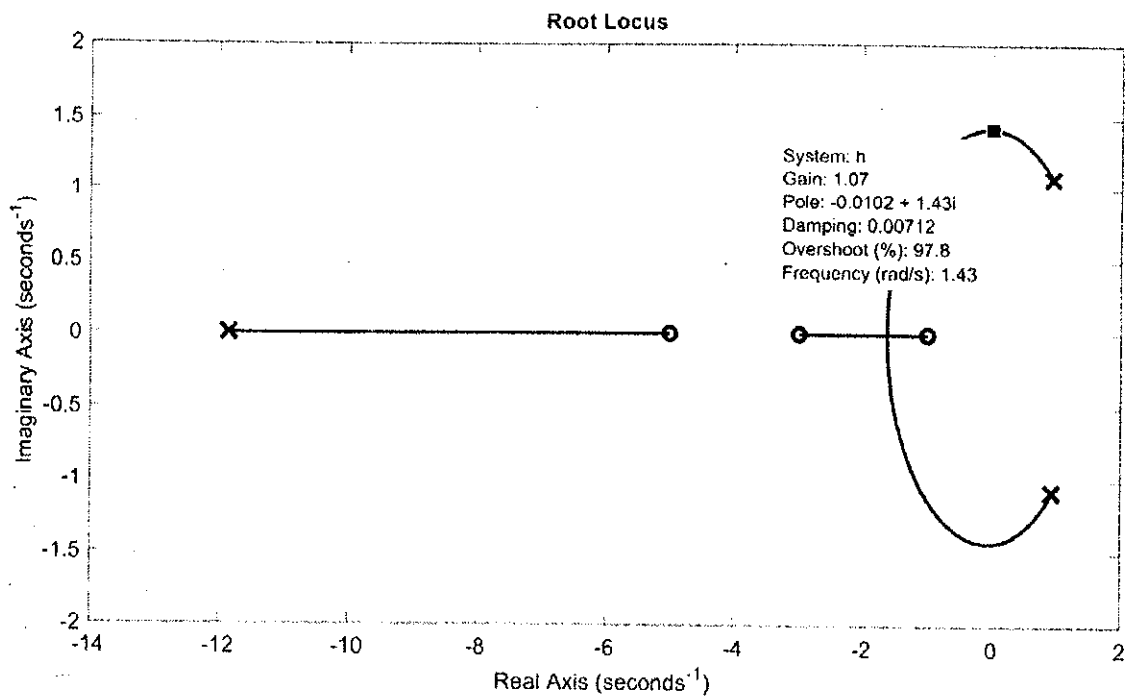

Figure Q2.
b) Figure Q2 shows the root locus of a SISO LTI system. Obtain the open-loop zeros and open-loop poles of the system, and derive the transfer function. Assuming a proportional-only controller is used to control this plant, what is the possible approximate range of values for the gain to make the plant stable.